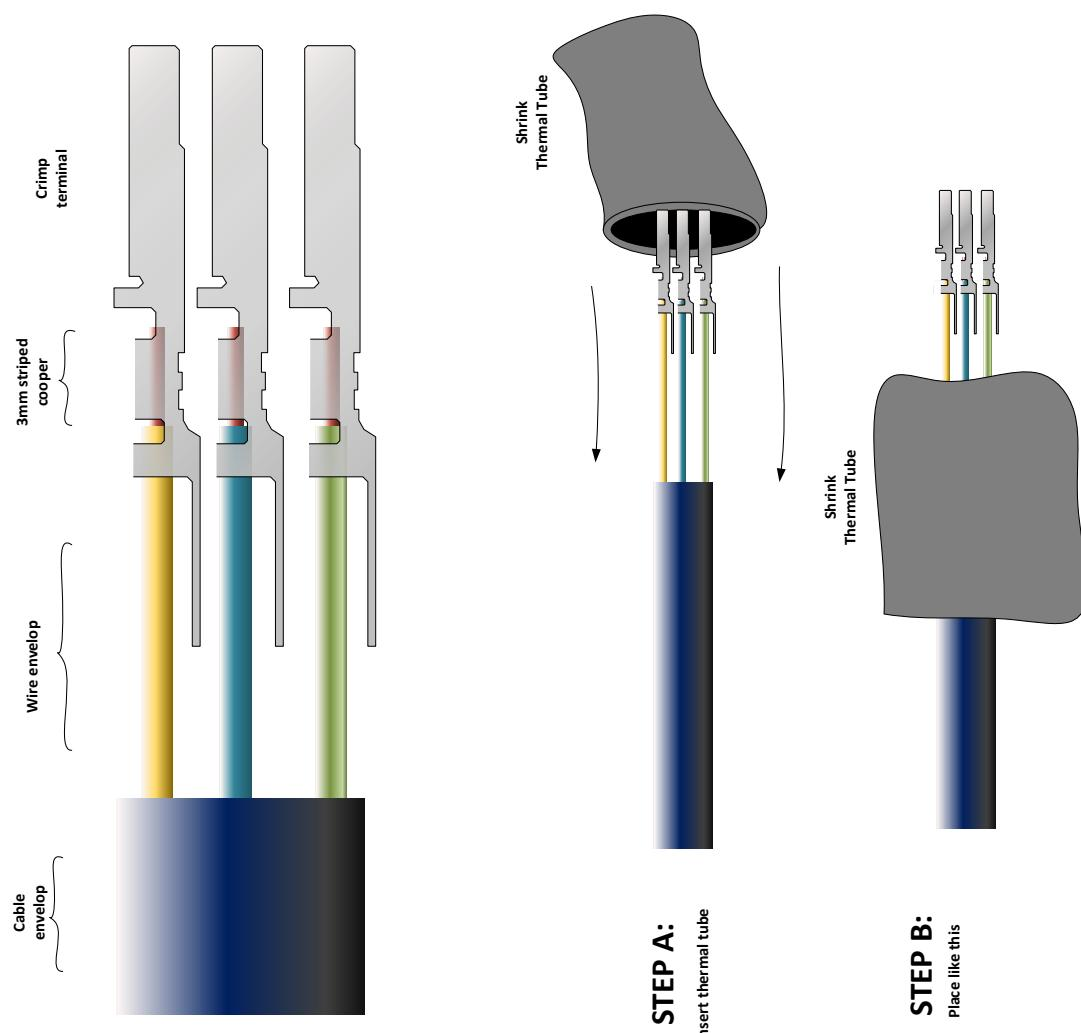

Figure 4.22: Crimping Molex Mini-Fit ®: applying the heat shrink tube
7. Envelop the whole wire set using 2cm of a heat shrink tube (like the ones described in section 3.10.2.1). Select the correct tube diameter according to your need. Use figure 4.22 as a reference.